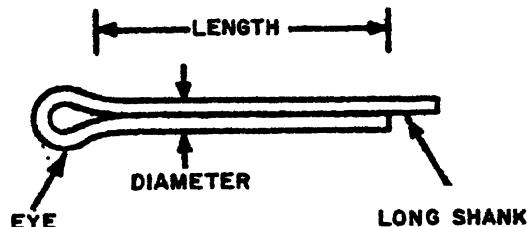

FIGURE 5
- a. Examine a cotter pin and identify its dimension and parts. See figure 5.